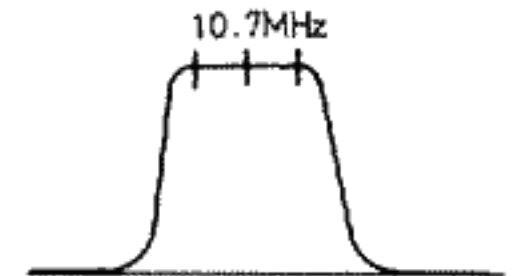

Fig. 15
- Be sure S curve is normally as illustrated in Fig. 15.